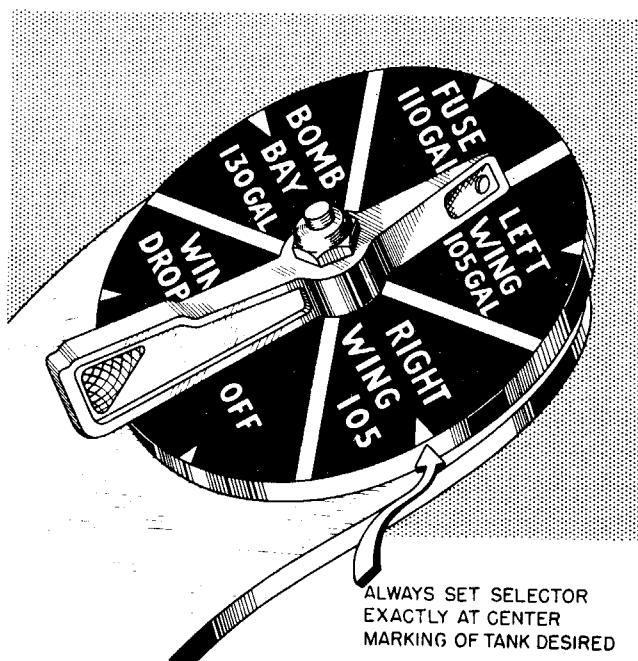

Figure 15 — Fuel Selector Control
(1) **FUEL SELECTOR VALVE.**—The control for the selector valve (see figure 15) is located on the left side of the cockpit, directly forward of the arresting gear control. Six positions are indicated on the control dial: "LEFT WING," "RIGHT WING," "FUSE," "BOMB BAY," "WING DROP," and "OFF." Be sure to feel for the "notch" in the selector valve when moving the control to a given segment.